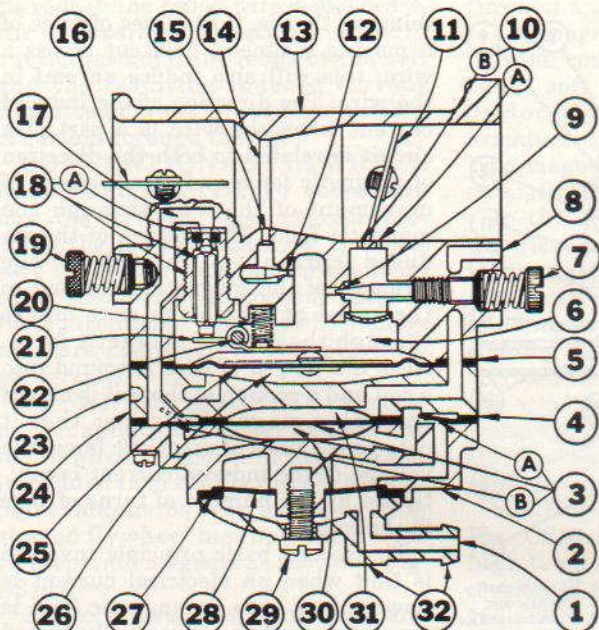

Fig. CS8—Cross-sectional schematic view of Tillotson series HL diaphragm carburetor. Some models of this type carburetor are equipped with an accelerator pump
A cross-sectional schematic view of a typical Tillotson series HL diaphragm type carburetor with integral fuel pump is shown in Fig. CS8. The top of the pump diaphragm is vented to the engine crankcase through the channel (8). As the diaphragm pulsates, fuel is drawn into the carburetor through inlet (1), screen (28) and pump inlet valve (3A). The fuel is then pumped through the outlet valve (3B) into the supply channel (17). Engine suction through the main jet (15) and idle jets (10) is transmitted to the top